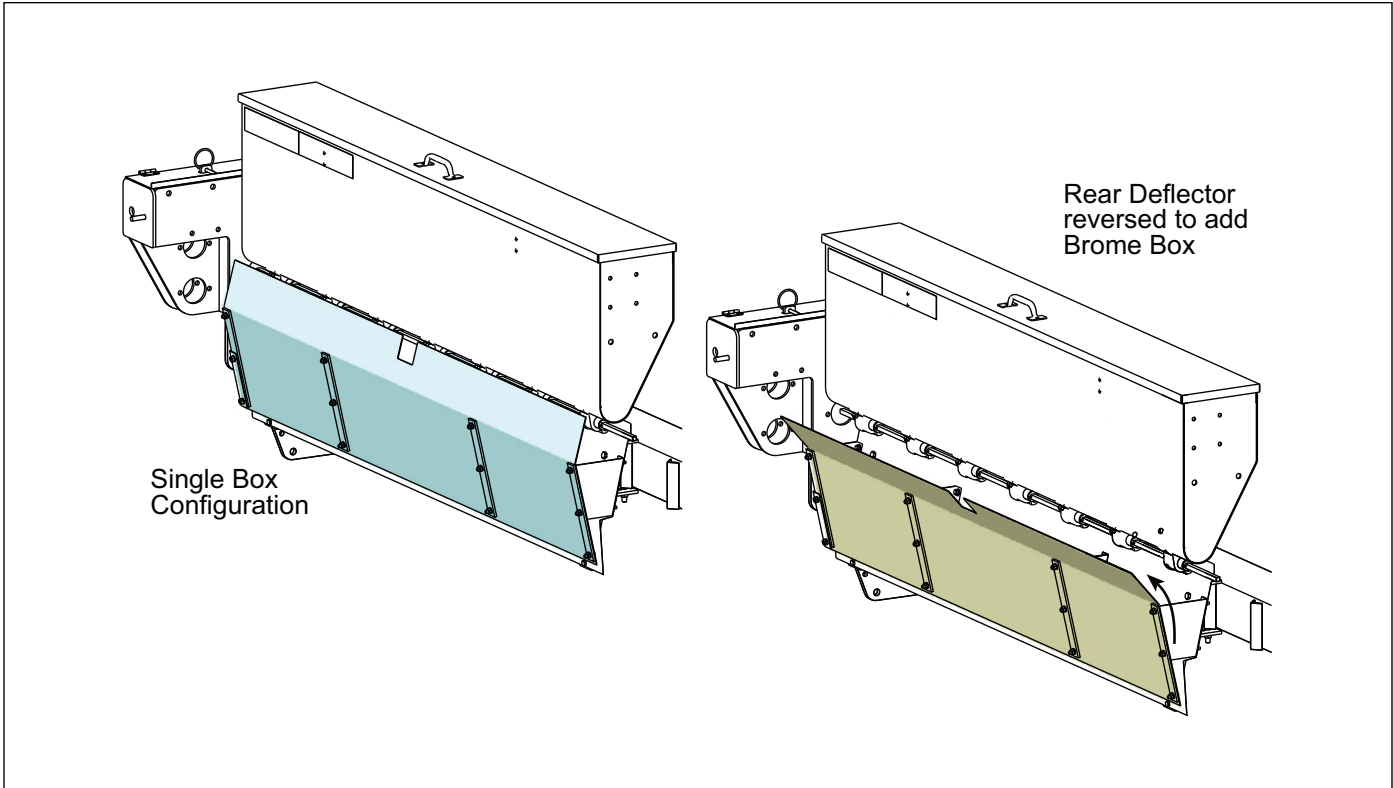

Figure 2-30: Deflector Shield
1. Remove bolts holding rear panel to deflector shield assembly and reverse rear panels so that upper lips flare rearward instead of forward. **See Figure 2-30.**